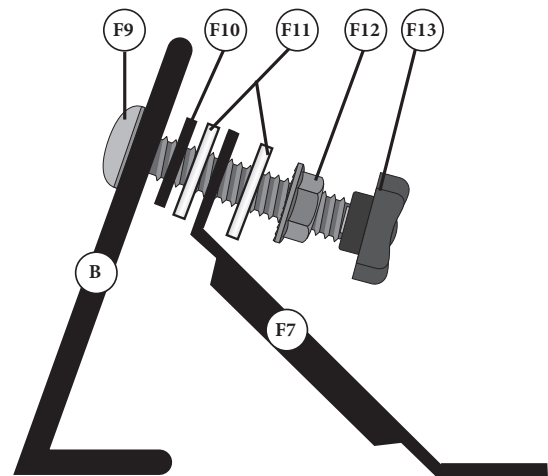

FIG. 4
Turn Cone Assembly (B) upside down and install Strut (F7) using one Carriage Bolt (F9), Rubber Washer (F10), two Flat Washers (F11), and fasten with a Whiz-Lock Nut (F12) as shown in FIG. 4.